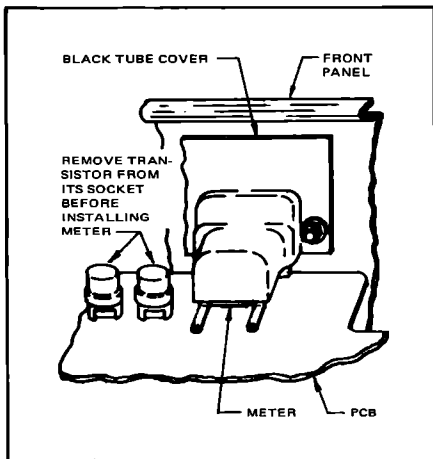

Figure 6-2. METER INSTALLATION
- f. Refer to Figure 6-2 and install the meter as follows: